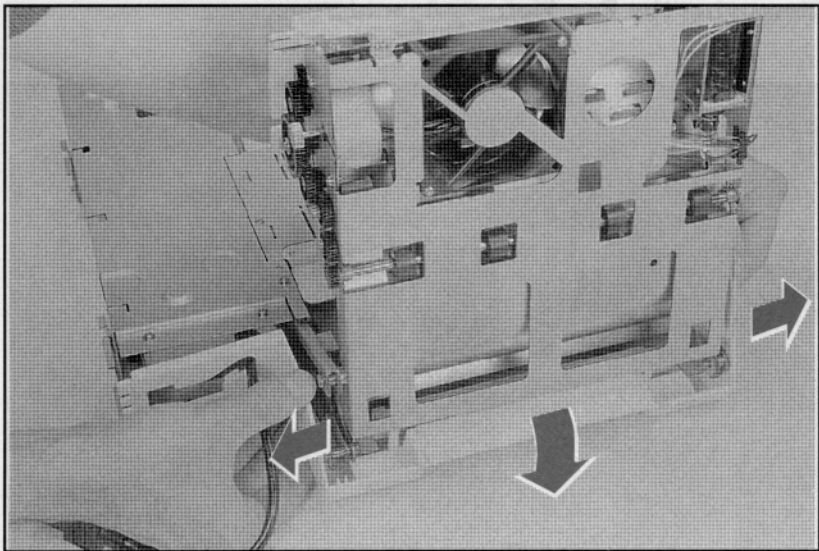

Figure A-9 Back Cover
- 2 Release the (2) locating pins as shown in Figure A-9.